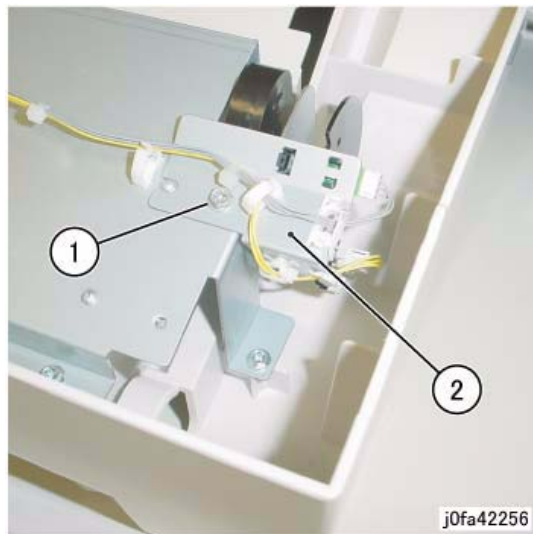

Figure 5 Removing the Stacker Sensor Assembly
11. Remove the Stacker Sensor Assembly (Figure 5):